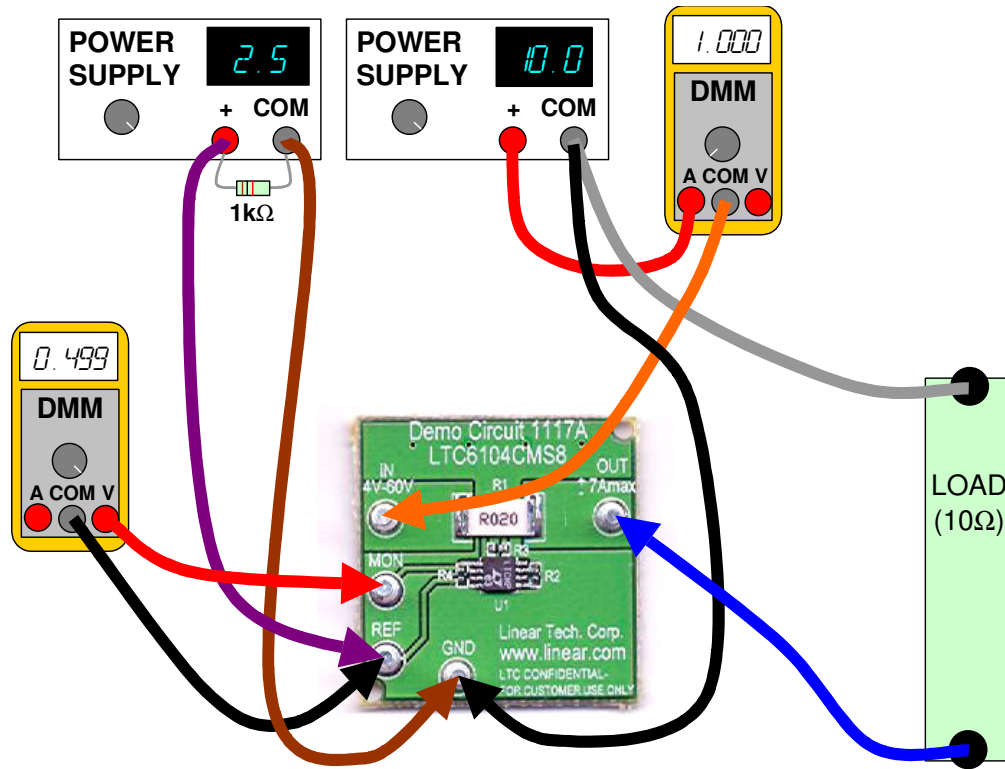

Figure 1. Proper Measurement Equipment Setup
Demonstration circuit 1117 is easy to set up to evaluate the performance of the LTC6104. Refer to Figure 1 for proper measurement equipment setup and follow the procedure below:
1. With power off, connect a power supply positive to IN and the common to GND. This supply should be in the range of 4V to 60V. If this supply is not equipped with an accurate current readout, a DMM (set to measure Amperes) may be connected in series with the supply as shown in Figure 1.
2. With power off, connect a reference voltage (2.5V for example) to REF and the common to GND. This supply must be capable of sourcing and sinking up to 1mA. This can be done with a normal lab power supply using a 1k Ω loading resistor to assure a unidirectional supply current in all conditions (this configuration is shown in Figure 1).
3. Connect a voltmeter or oscilloscope probe to the MON terminal, with the common connection or ground clip tied to GND. Alternatively, the measurement may be taken differentially between MON and REF to get a true bipolar readout (this is the DMM connection shown in Figure 1).